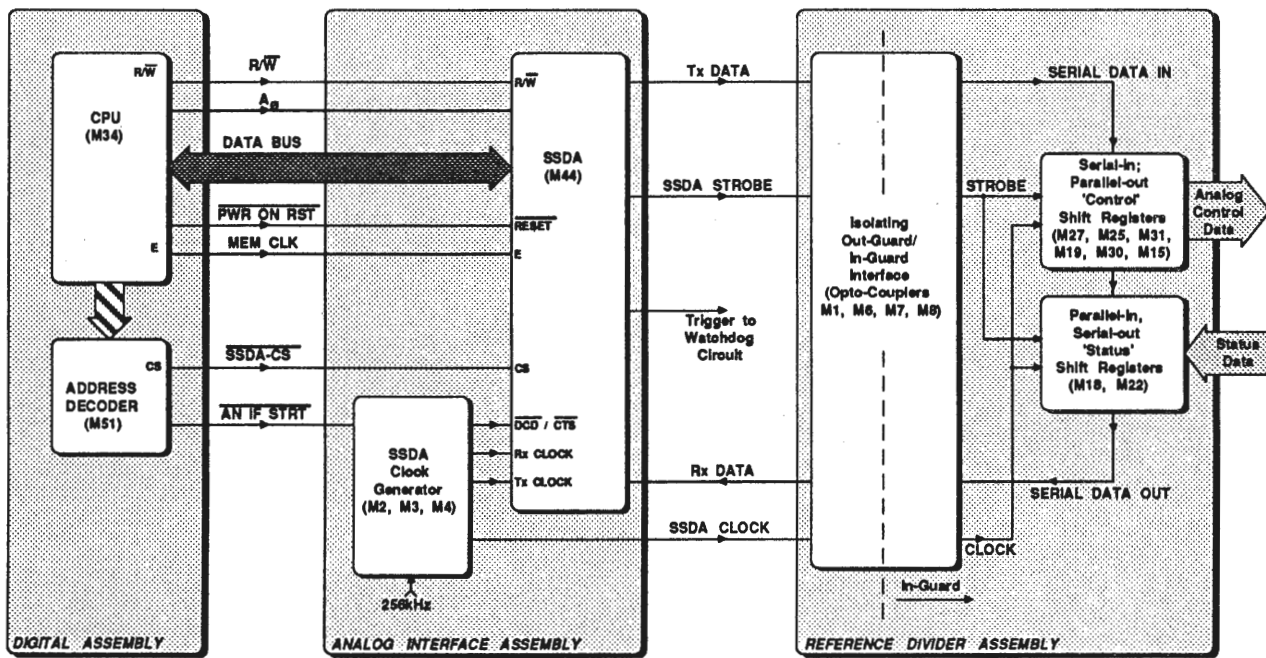

FIG. 6.14 SERIAL DATA LINK - SIMPLIFIED FUNCTIONAL BLOCK DIAGRAM
- Provides a two-way interface via a serial data link between out-guard digital processing and in-guard analog control circuitry on the reference divider assembly (see Fig. 6.14).
Certain selected 'Status' signals, originating in the analog assemblies, are returned to the CPU during the data transfer. Thus, the data link forms a continuous loop, as shown in Fig. 6.14.
6.4.2 SERIAL DATA TRANSFER (Fig. 6.14)
6.4.2.1 The Transfer Cycle (Fig. 6.14)